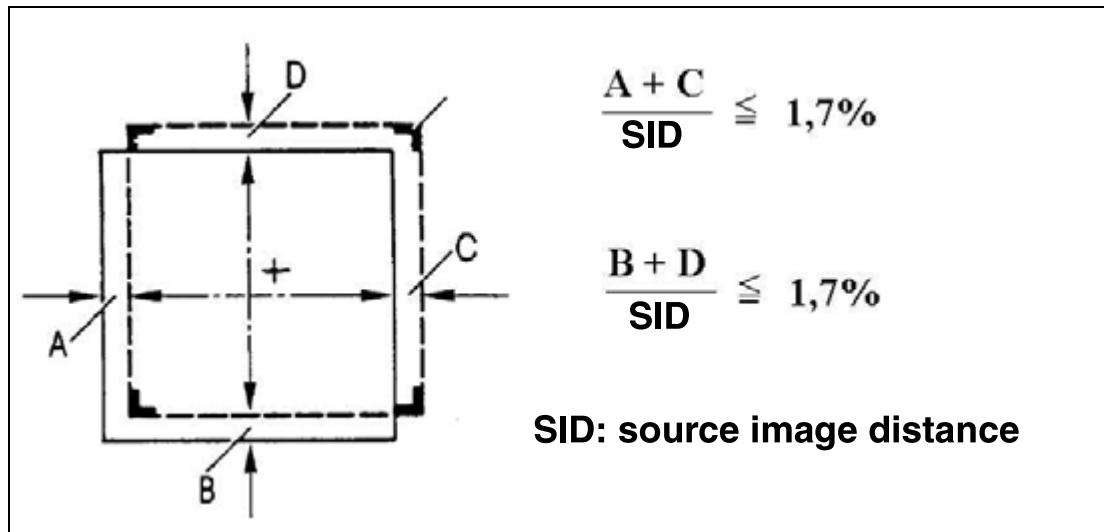

Fig. 26: Light field/radiation film
- Evaluate the deviations (A, C and B, D) between the recorded light field and the radiation field edges on all four sides using the centering cross (Fig. 26 / p. 57). Use the zoom function as necessary.